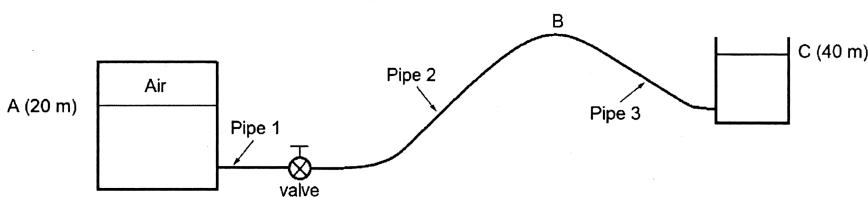

Figure 3
- (b) Water flows from a pressurised closed tank A to an open reservoir C as shown in Figure 3. The elevations of the free surface of A and C are 20 m and 40 m respectively.